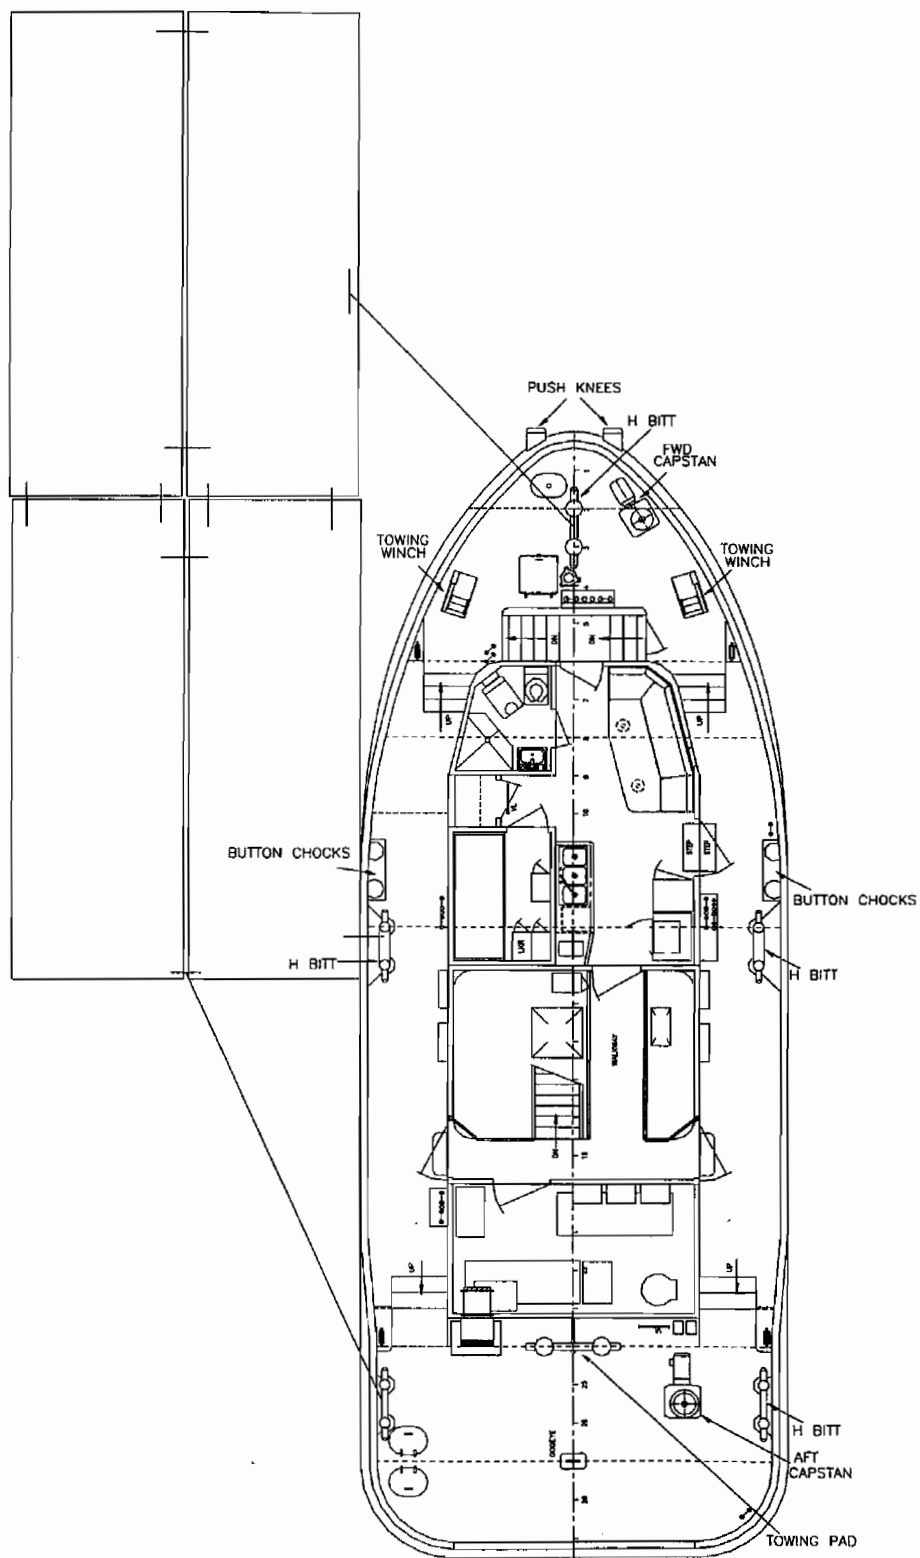

Figure 2-54 . Hip Towing Arrangement
- a. Hip Towing. Hip towing consists of pushing one or more barges alongside the ST. Generally, tow is made up in such a case using port and starboard, aft, midship, and forward bits using tow lines. A typical arrangement for such an operation is provided in Figure 2-54.